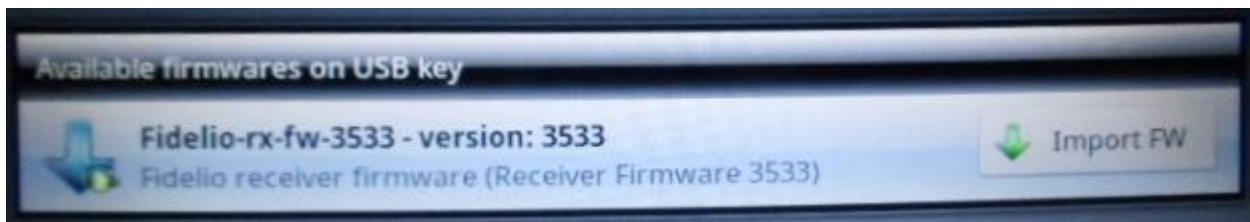

Figure 79: Import FW Window
- Tap on Import FW and a new window will appear identifying the firmware's name and version. Tap the Import FW button to import the firmware package from the USB drive to the SD card of the Fidelio Tablet (Figure 79).